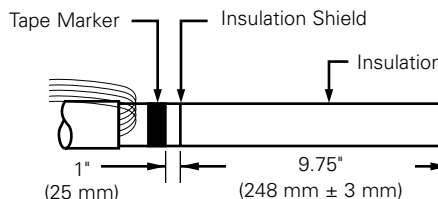

Figure 16. Line illustration of cable stripback.
- Remove insulation shield 9.75" (248 mm) from end of cable. Refer to Figure 16.
- Measure 1" (25 mm) from end of insulation shield. (Refer to Figure 16.)